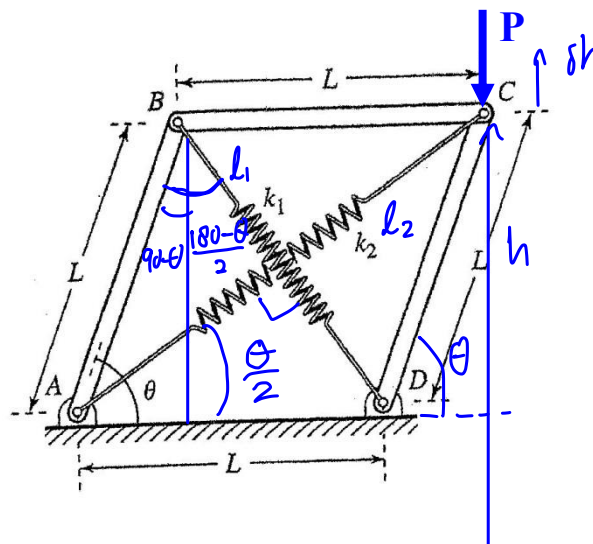

Figure 1
1. This paper contains **FOUR (4)** questions and comprises **EIGHT (8)** pages.
- 1(a) A spring loaded mechanism is made up of rigid bars AB, BC and CD pin jointed and subject to a vertical force, **P**, applied at point C. The mechanism is in equilibrium with the two springs shown in Figure 1. The rigid bars have uniform length of L . The mechanism has an angle, θ , relative to the horizontal surface. The two linear spring stiffness are indicated as k_1 and k_2 . When the load, P , is removed, the springs will return the mechanism back to its initial position on the vertical plane when $\theta = 90^\circ$.